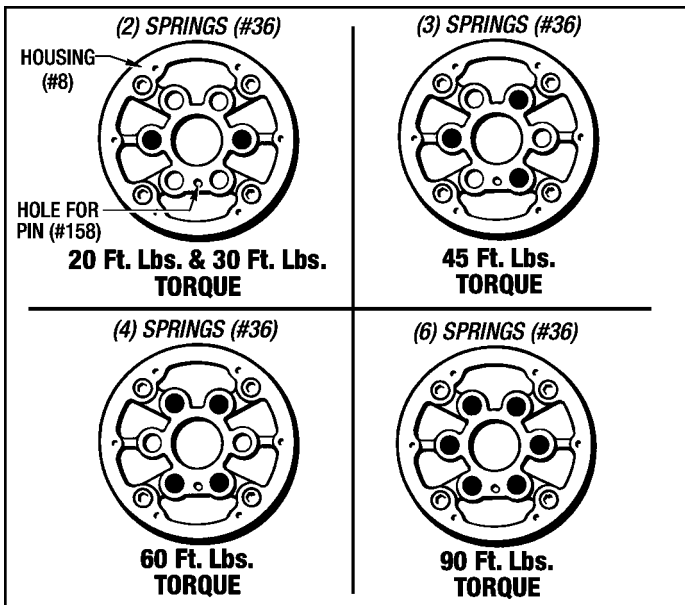

Figure 9.2 - Correct Spring (#36) Placement (MB-210, 210L)
- Place the correct number of Springs into the spring pockets in the Housing (#8) for your required torque. See Figure 9.2 for Correct Spring Placement.
- Place the large O-Ring (#104) on the Housing (#8) and the (6) small O-Rings (#34) into the (6) recesses in the back face of the Piston Housing (#10).
- Attach the Piston Housing (#10) to the Housing (#8) with (6) Screws (#153) and (6) Lockwashers (#128). Tighten these screws down in an even manner to correctly compress the Springs (#36). **Torque to 14 Lb. Ft.** Make sure that the Anti-Rotational Dowel Pin (#158) in the Piston (#3) is aligned with the hole in the Housing (#8) shown in Figure 9.2.